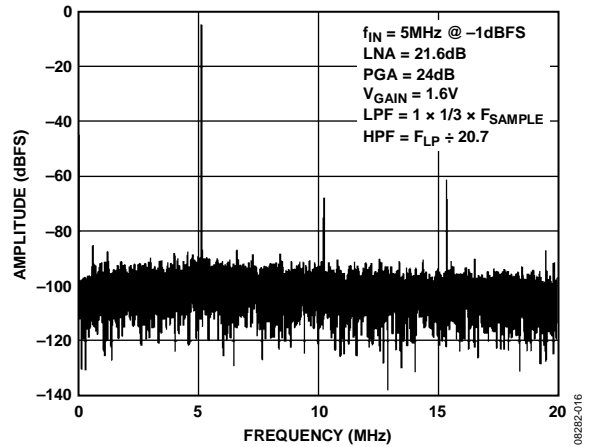

Figure 16. Typical FFT, AD9276 and AD9277
3. Click the disk icon within the **Graph** box to save the performance plot. See Figure 16.